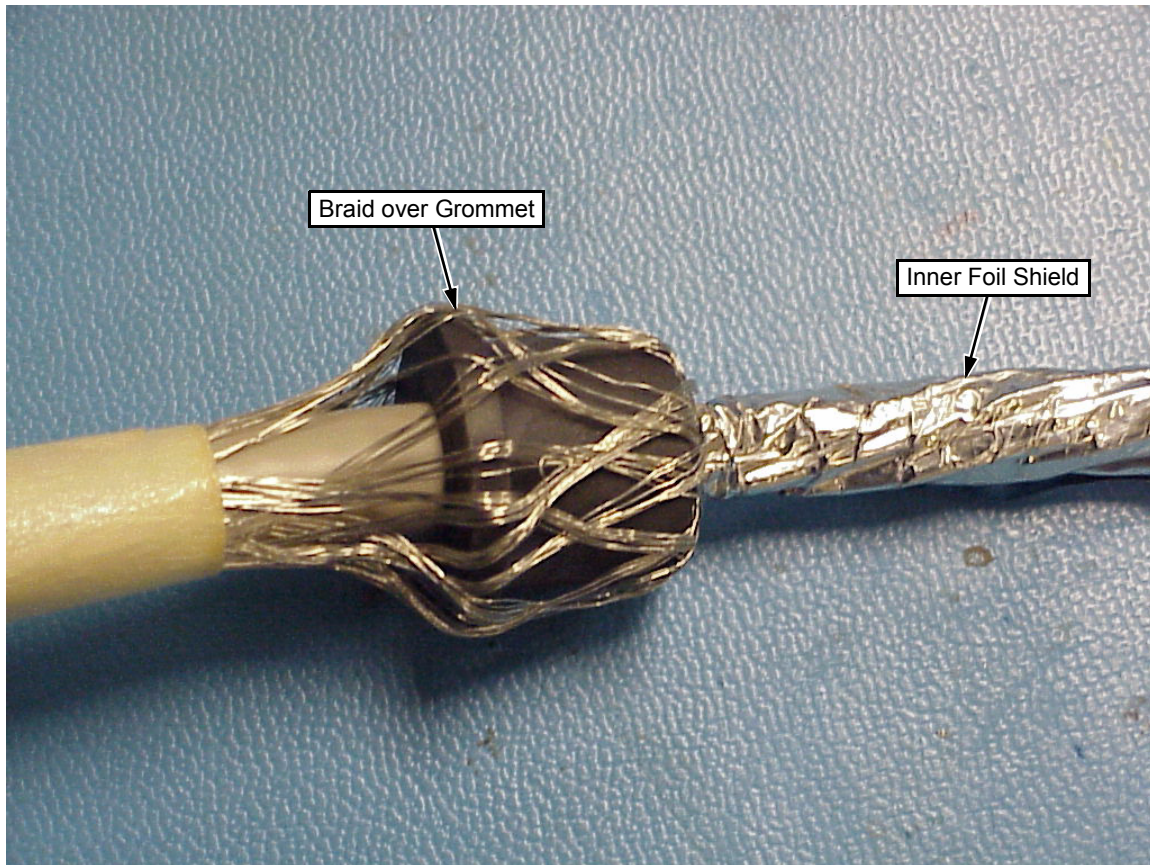

Figure 9. Unbraiding the Wire Shield
3. Unbraid the wire shield and fold it back over the grommet. (Figure 9.)